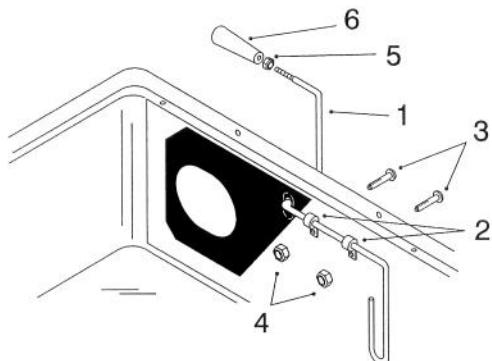

**Figure 7**
3. Mount the frame and hinge assembly to the bagger top (Fig. 7) using two  $\frac{1}{4}$ " x  $\frac{3}{4}$ " bolts (already installed on the hinge assembly) and two  $\frac{1}{4}$ " nylon lock nuts.